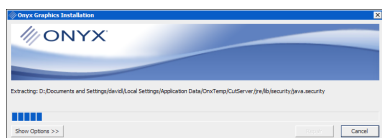

Figure 1—Install Screen
4. Read the **License Agreement**, check that you agree, and click **Install**. This begins the install (see Figure 1).